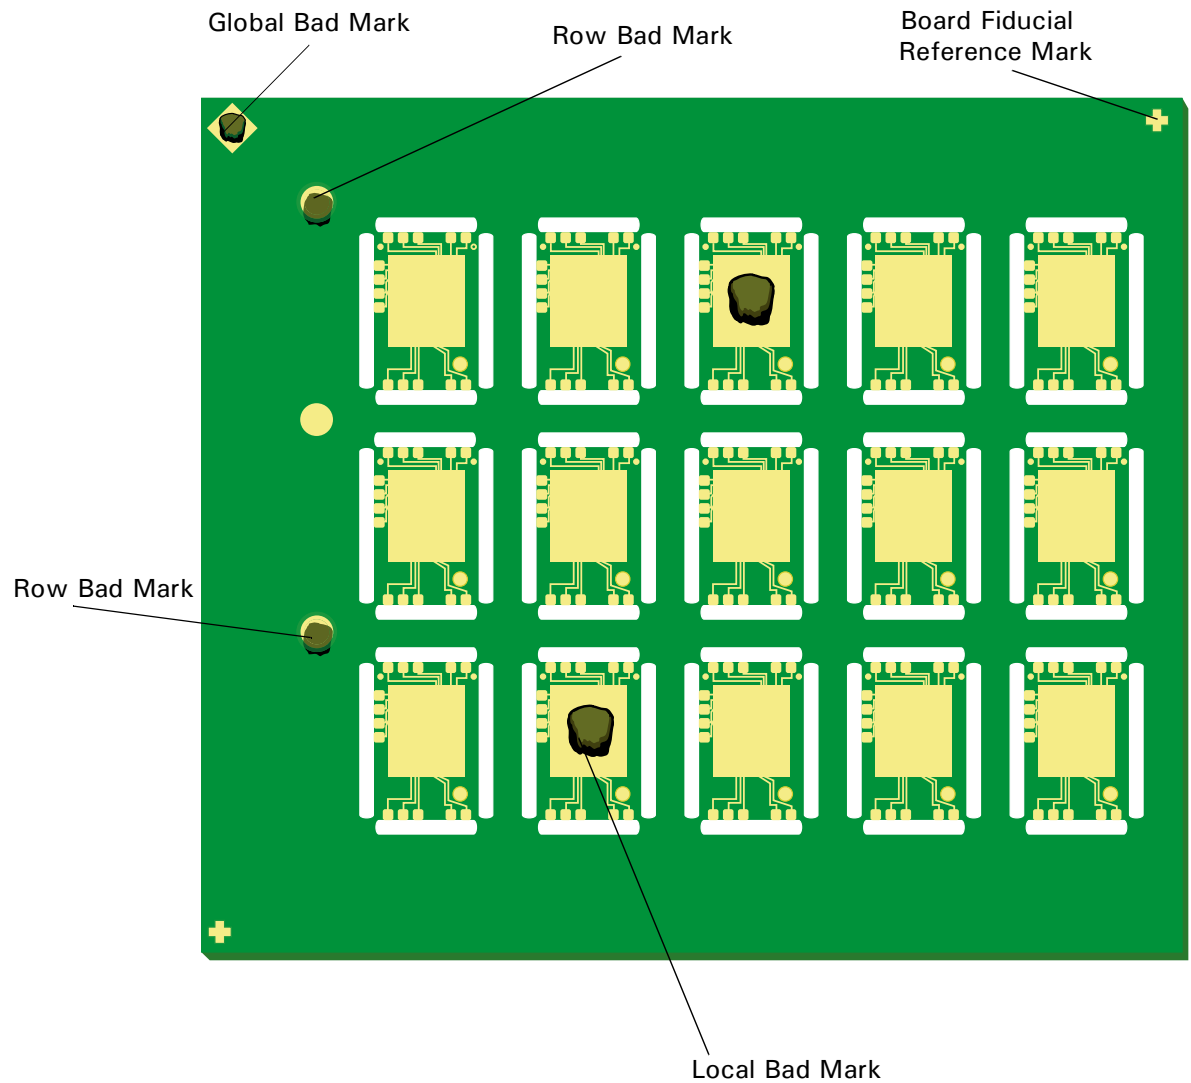

Figure 10-2
**Global** - Used to identify that a bad mark exists on a board. When inserting a Bad Mark command into the process program the **Global** level is always the first level that the system will read. This is identified with the word **Global** under the column **Mark Level** (in the Process Program Grid). See Figures 10-2.
Figure 10-2 illustrates a typical board using Bad Mark sensing. Note that the board is marked (with a black marker or equivalent) at each reference point (Global, Row, and Local). Each of these points are taught and named and placed within the program (using the Process Program Grid).